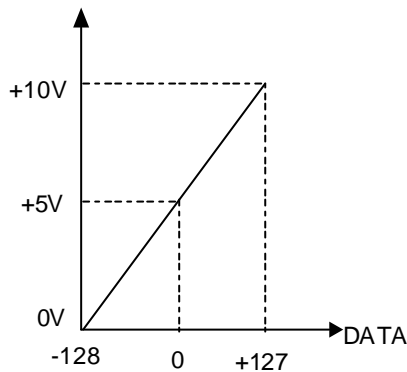

Fig. 1
- (i) Output data other than speedometer output and load meter output carries out the D/A output in Fig. 1.
If "256" is set (magnification 1) in parameter SP255 (SP256), from Fig.1, the D/A output voltage will be as shown below, exceeding the D/A output voltage maximum value.
If "256" (magnification 1) is set in parameter SP255 (SP256), from Fig.1, the D/A output voltage will be as shown below, exceeding the D/A output voltage maximum value.
If "256" is (magnification 1) set in parameter SP255 (SP256), from Fig.1, the D/A output voltage will be as shown below, and data confirmation will be possible.